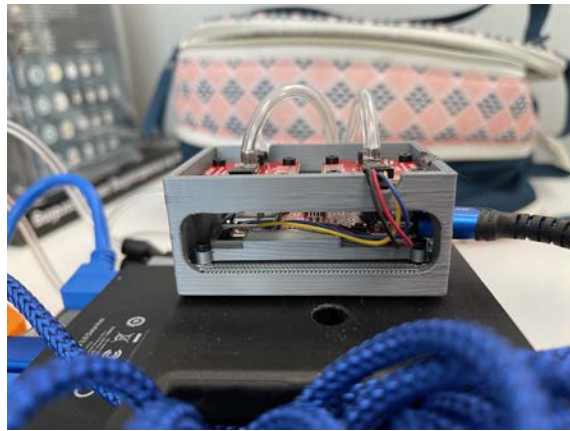

Figure 94: Pressure sensing system mounted onto the robot end effector
16. Mount the pressure sensing system onto the robot end-effector using VHB tape (Fig 94)